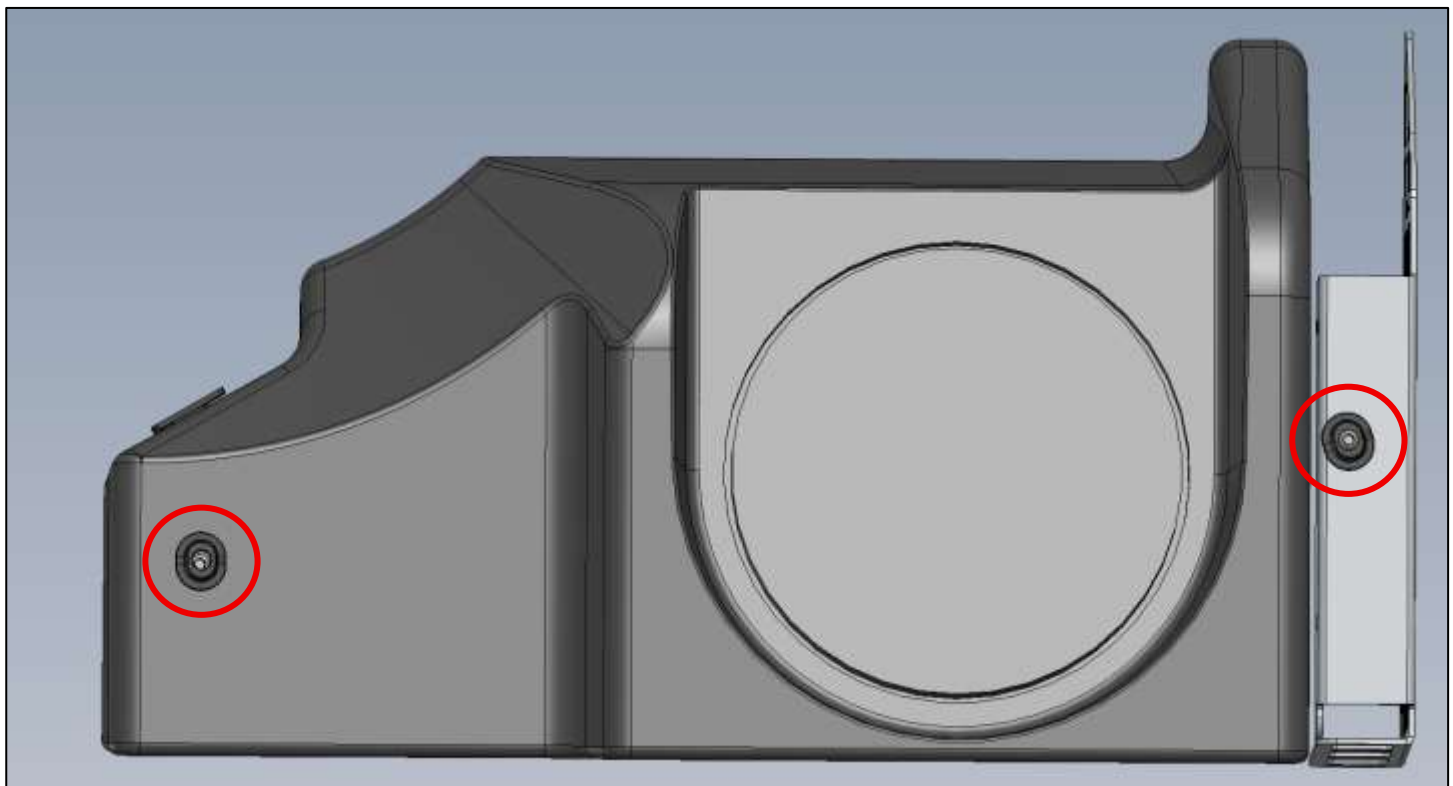

Figure 27
6. Locate (2) two M10 Pegs and (2) two Rubber Grommets. Install (1) one M10 Peg into each Rivnut Insert on the Bottom of the Sub and Sub Bracket. *Figure 27.*